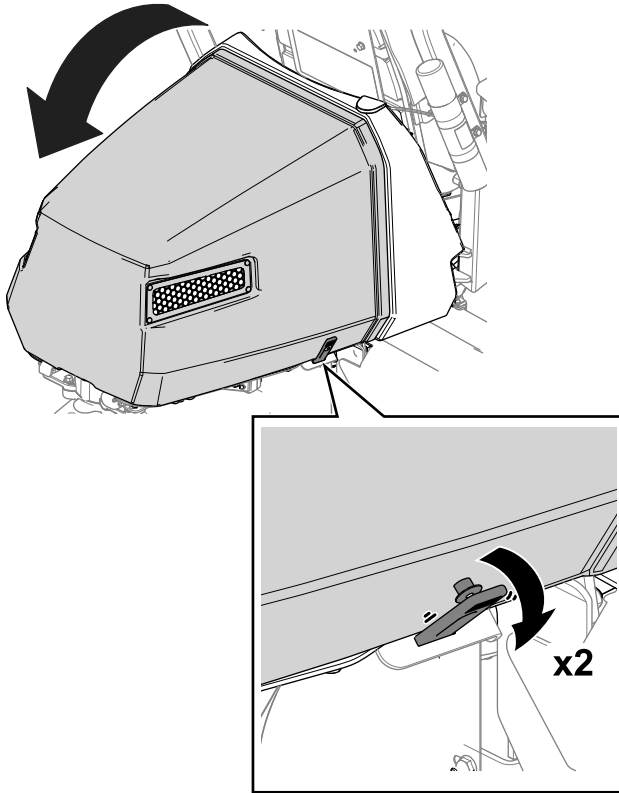

Figure 36
1. Release the straps from each side of the hood (Figure 36).
2. Raise the hood (Figure 36).